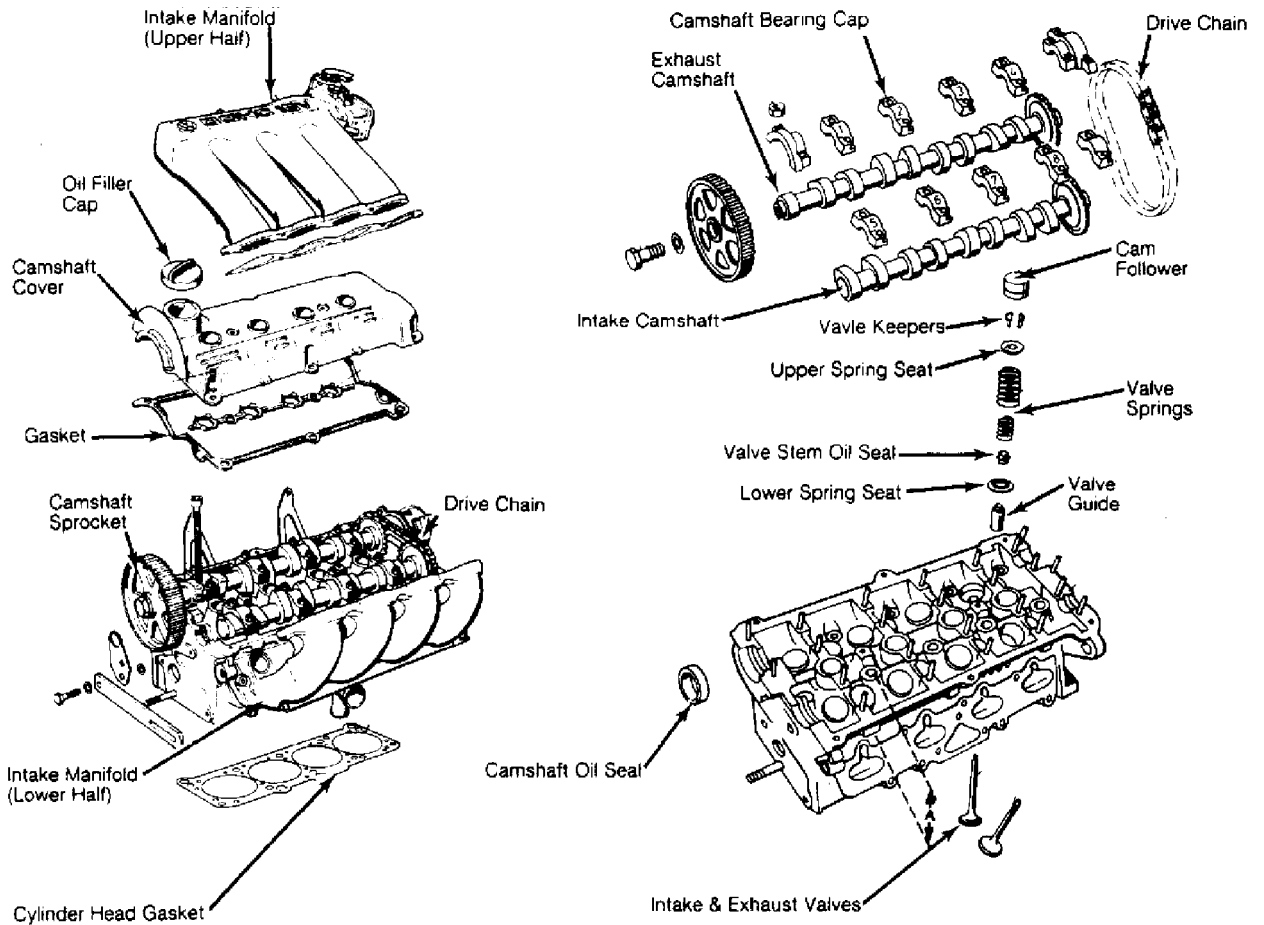

Fig. 3: Identifying 2.0L Cylinder Head (16-Valve)
To determine weak or noisy lifter, position camshaft lobe high point upward. Using a piece of wood, push cam follower down. See Fig. 3 or 4. If cam follower moves down more than .004" (.10 mm), replace cam follower. If cam follower moves less than .004" (.10 mm), cam follower is okay. Repeat procedure for remaining cam followers.
1) Removal and installation procedure is not available from manufacturer. Cylinder head may be removed with engine in vehicle. Match mark all components for installation reference. Remove timing belt. See TIMING BELT under REMOVAL & INSTALLATION. See Fig. 3 or 4.
1) Remove upper timing belt cover. Remove camshaft cover. See Figs. 3 and 6. Place crankshaft at TDC with No. 1 cylinder on compression stroke. Remove timing belt from camshaft sprocket. Remove camshaft sprocket. Remove Woodruff key. Check camshaft end play with cam followers removed and bearing caps No. 1 and 4 (exhaust camshaft) or 5 and 8 (intake camshaft) installed. See CAMSHAFT TABLE under ENGINE SPECIFICATIONS at end of article.